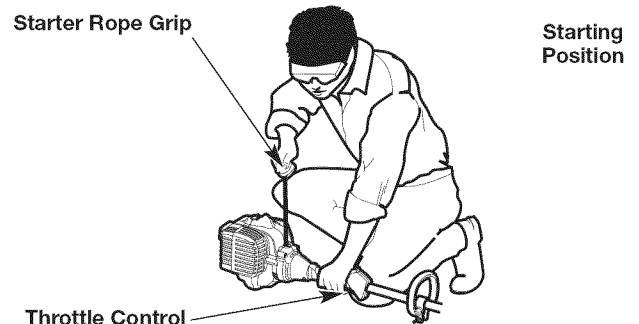

Fig. 14
WARNING: Avoid accidentally starting the unit. To avoid serious injury, the operator and the unit must be in a stable position when pulling the starter rope (Fig. 14).
5. Crouch in the starting position (Fig. 14).
6. Squeeze and hold the throttle control. Pull the starter rope with a controlled and steady motion **5 times** (Fig. 14).